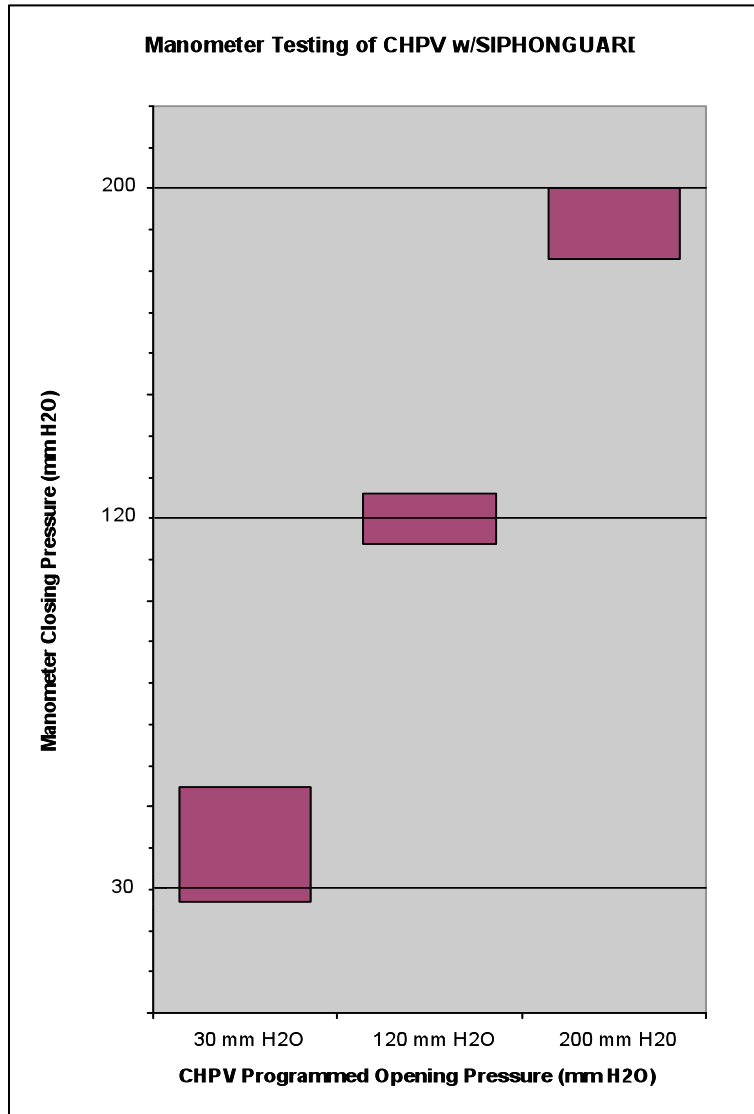

Figure 10
- Variations in test results from the programmed CHPV/PV opening pressure should be expected. Variations of as much as +/- 25 mm H₂O from the opening pressure setting of the valve are possible based upon the test method being utilized. See figure 10 below.